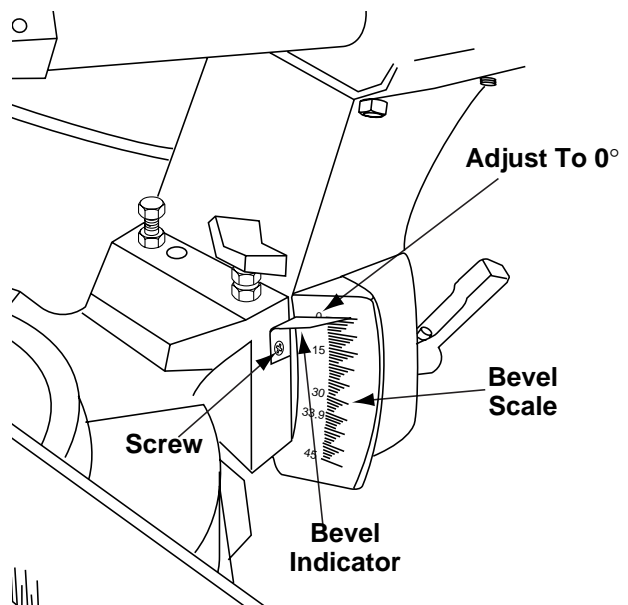

Figure 7. Bevel Indicator
This scale is cast in on the saw. Allows you to read the bevel angles easily (Figure 7, page 13).
- f. Adjust bevel indicator. Loosen screw and align indicator to the 0° mark. Tighten screw (Figure 7).
- e. Check that bevel indicator is pointing to the 45° mark on the bevel scale (see Figure 7). If bevel indicator is not aligned with the 45° mark, first recheck the blade squareness to the table and 0° bevel indicator alignment. Then, repeat the 45° blade alignment and make appropriate adjustments.